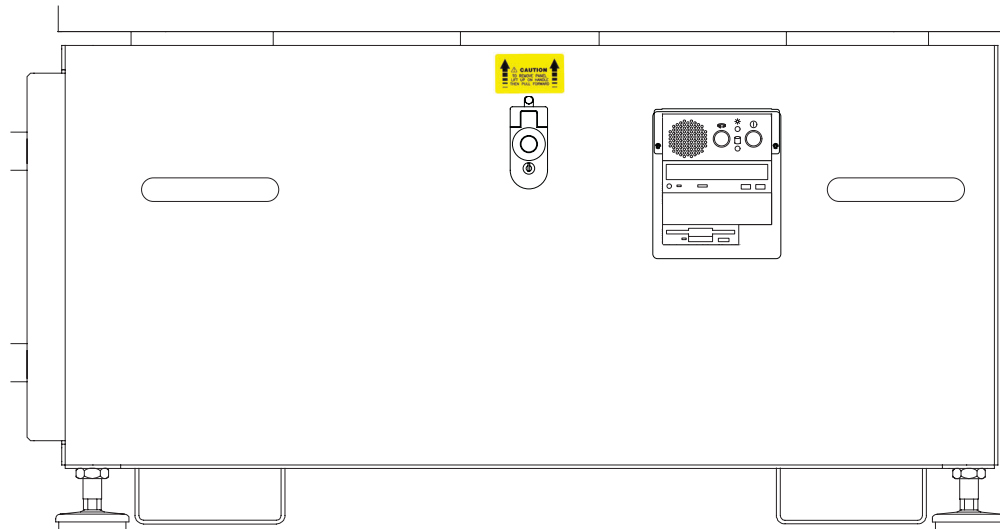

Figure 6-3 Summit 800 Key Switch and Latch
1. Unlock the Front Cover by turning the key switch counter-clockwise; see Figure 6-3.